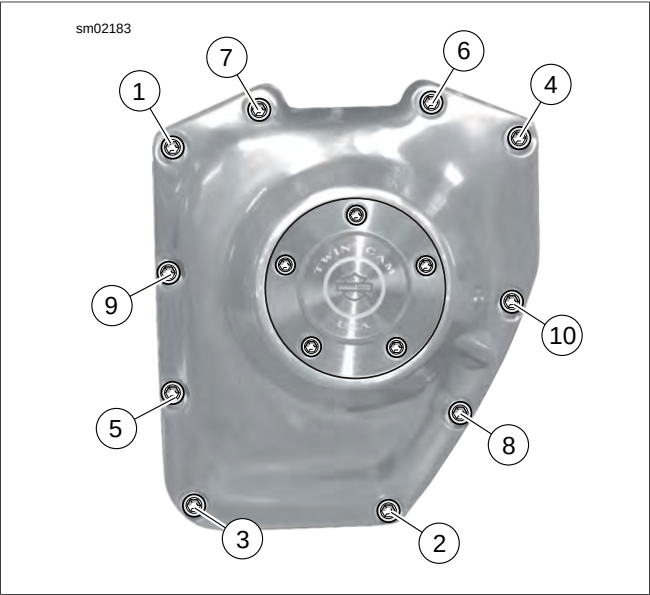

Figure 3-89. Cam Cover Screws
3. See Figure 3-89. Remove the socket head screws to release the cam cover. Remove and discard the cam cover gasket.